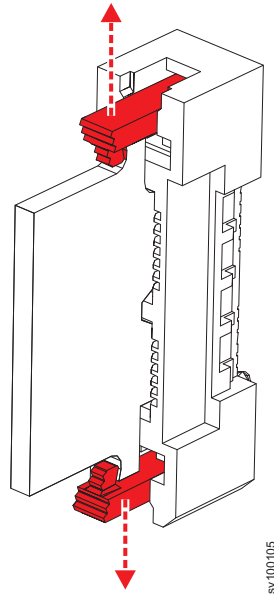

Figure 328. Removing the TPM from the main board of a 2145-SV1 node
7. Push out the locking clips on the side of the TPM to free it, as shown in Figure 328 on page 400.